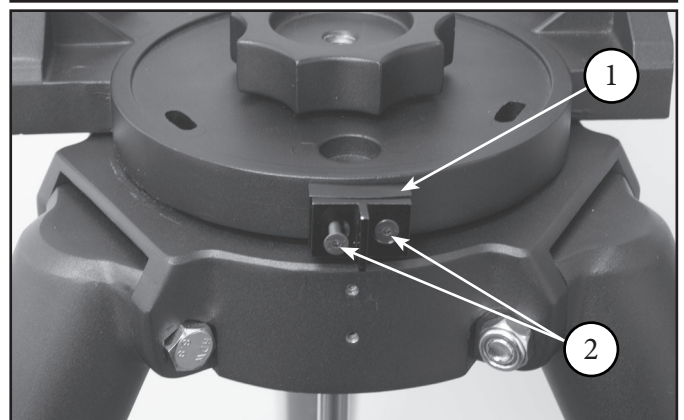

Fig. 4: Attach Azimuth Arm
3. Rotate the wedge body so it aligns with the two threaded holes located on the side of the tripod head. See Figure 4.
against the wedge body and line up with the screw holes as shown in Fig 4.
2. Attach the azimuth arm with the spacer block (1, Fig. 4) to the wedge body using the two 8-32 x 1/2" flat-head machine screws (2, Fig 4).